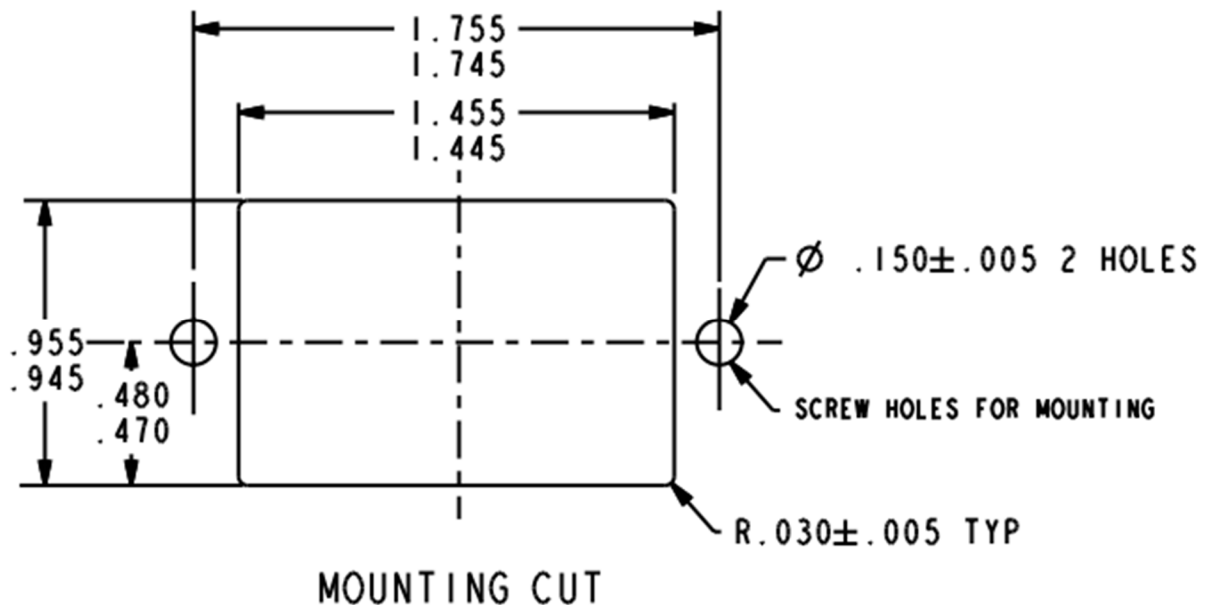

Figure 1 – Mounting Hole
2. Cut panel for Second Hour Meter in accordance with Figure 1. Install the Second Hour Meter (P/N: LH-HH3AS-H21) into the mounting hole.